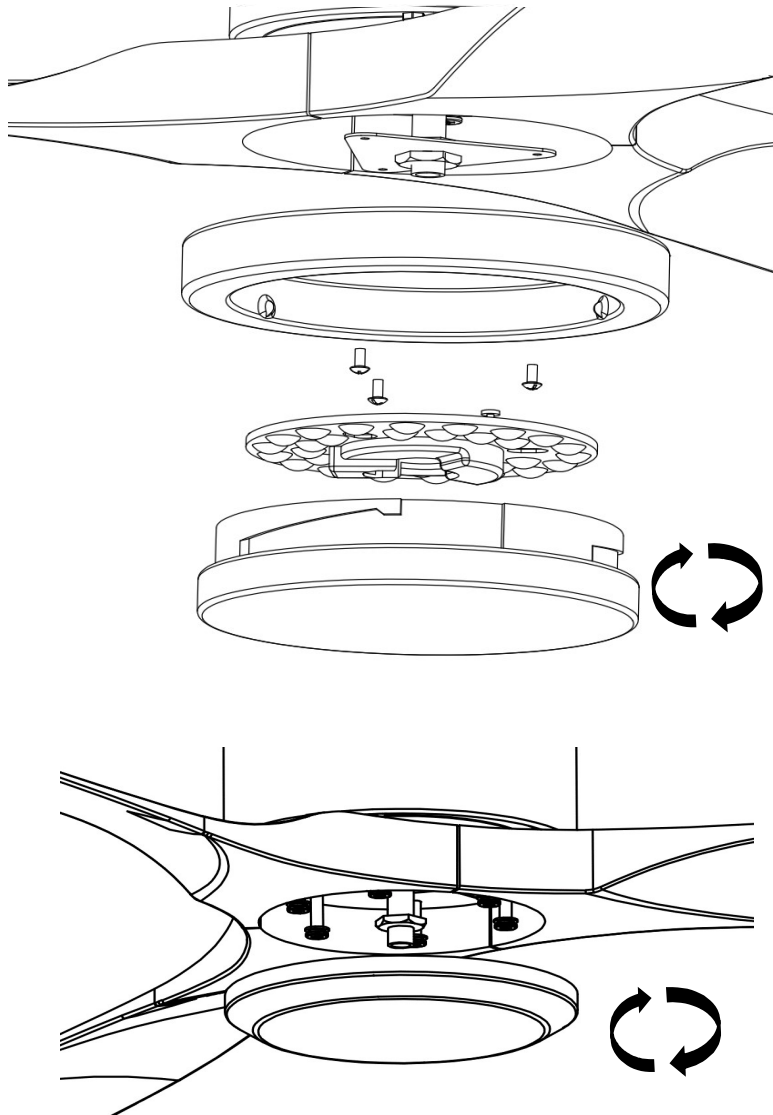

Figure 9
(Figure 9)
9. Connect the wires from the motor assembly and wires from the LED correctly. Attach the light kit plate to the fan motor assembly using the two light kit plate screws. (Figure 9)